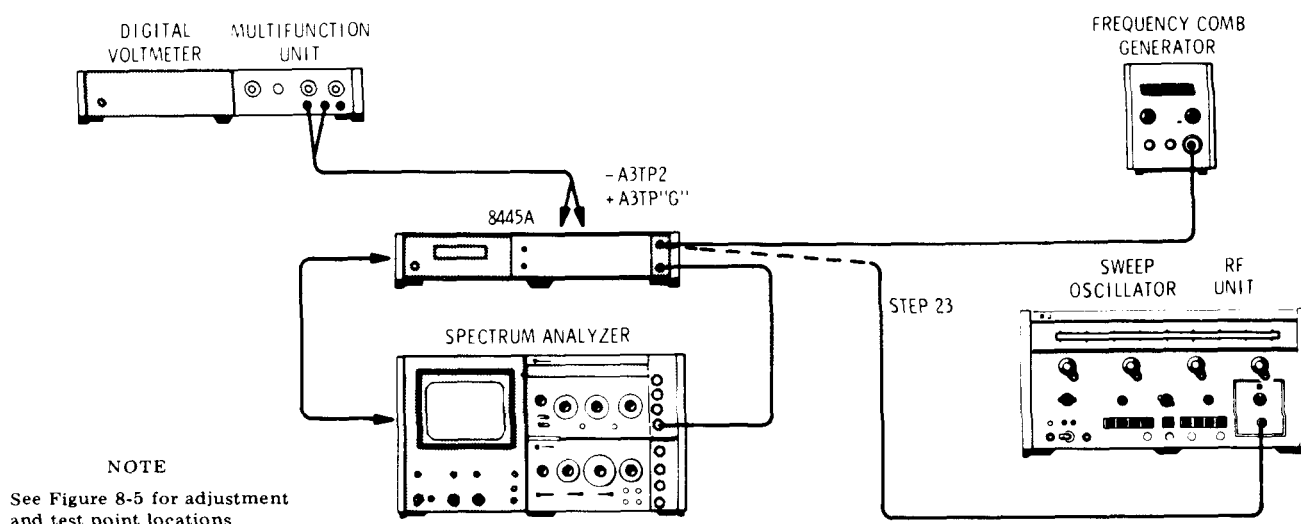

Figure 5-4. Yig Driver Check and Adjustment Test Setup (Matched Operation)
1. With test setup as indicated in Figure 5-4, apply power to Preselector and Spectrum Analyzer. Allow at least 30 minutes for equipment to stabilize.